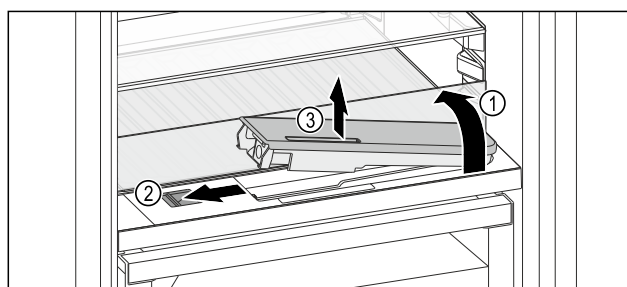

Fig. 124
- ▶ Lift the glass panel and fold towards the rear until it clicks into place *Fig. 124 (1)*.
- ▶ Slide the slider *Fig. 124 (2)* to the left.
- ▶ Remove the water tank *Fig. 124 (3)*.